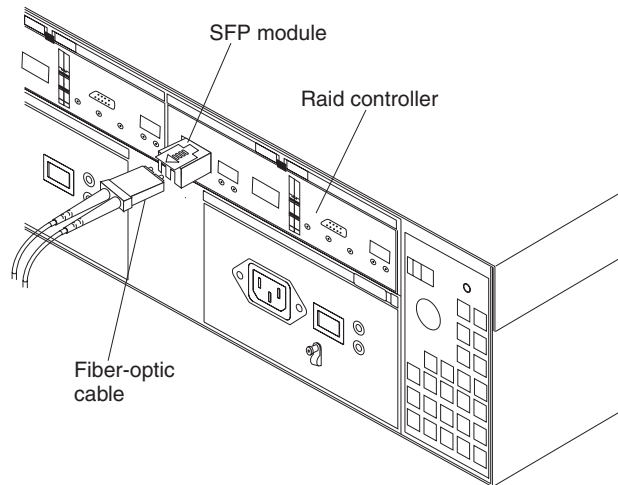

Figure 68. Location of SFPs and fiber-optic cables
3. From the RAID controller that has failed, remove the fibre-channel cables from the SFPs. The location of these components is shown in Figure 68.